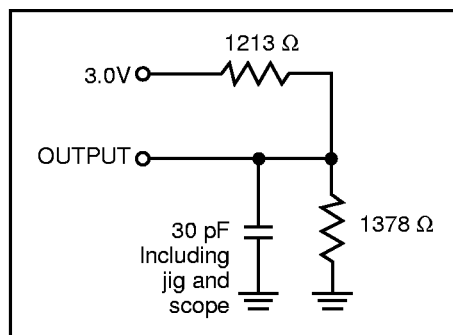

Figure 2. (-35 ns, -45 ns, -55 ns)
2. Tested with the load in Figure 2. Transition is measured ± 500 mV from steady-state voltage. Not 100% tested.